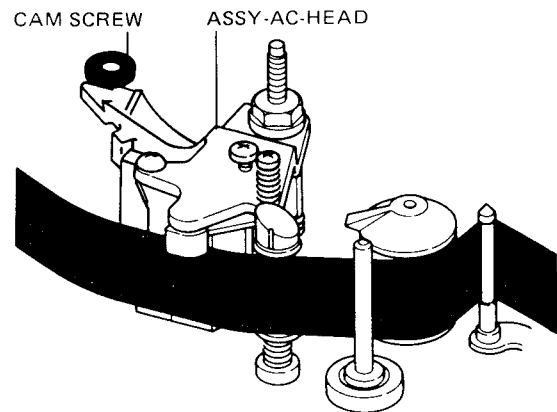

Fig. 4-24
- 3) Play back the alignment tape (TF-530RFS) and rotate the phase adjusting nut (CAM SCREW) shown in Fig. 4-24 to obtain maximum FM output.